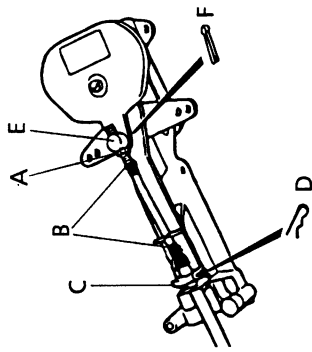

Fig. 6
- Remove the nut (A fig. 6) and both rubber seals (B fig. 6) from the cable.
- Push the cable through the bracket (C fig. 6)
- Secure the cable with the locking pin (D fig. 6)
- Connect the pivot to the throttle lever (E fig 6) and secure with the split pin. (F fig. 6)